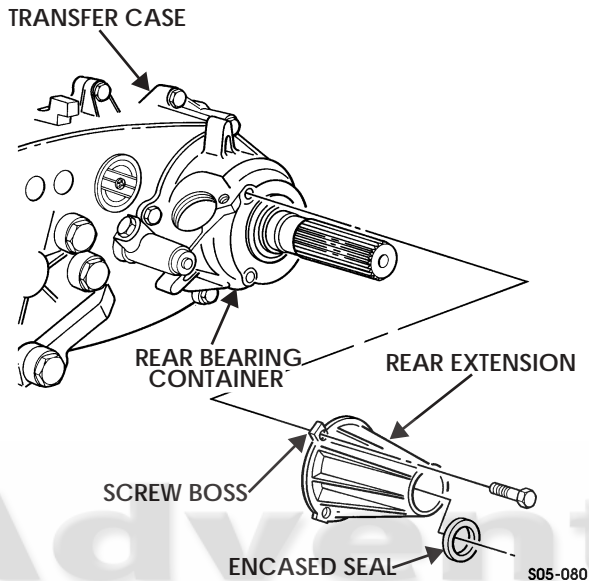

Figure 5-133: Rear Extension
5. Remove three capscrews securing rear extension to transfer case (Figure 5-133).